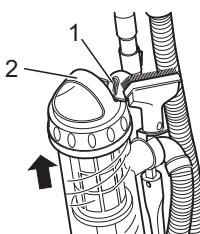

Fig. 17
1. Press the release button (Fig. 17/1) for the dust container and lift the dust container up and out of the appliance using the handle (Fig. 17/2).